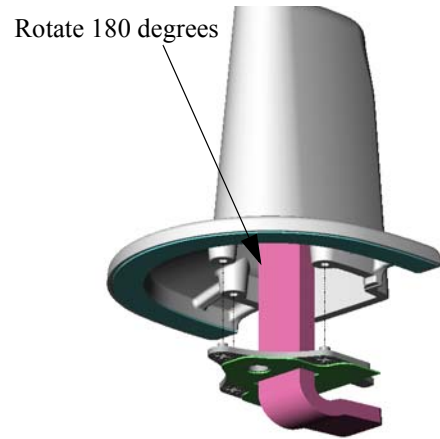

Figure 4. Rotate Base Clamp
2. Using the 3/16" hex wrench (provided), loosen the clamp bolt and turn the clamp 180 degrees (see Figure 4).